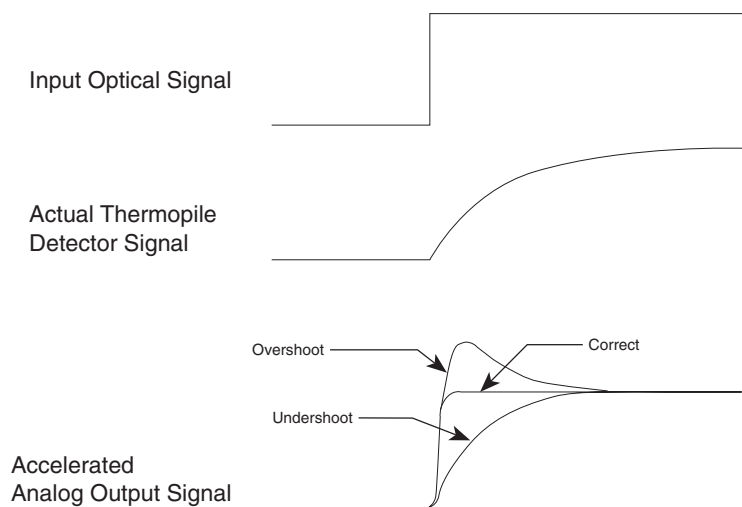

Figure 10 — Detector Time Constant ACCEL. ADJ. Setting
2. Introduce a step function (or sub-hertz square wave) of optical power to the High-Power detector. You should observe a signal trace similar to Figure 10 below.